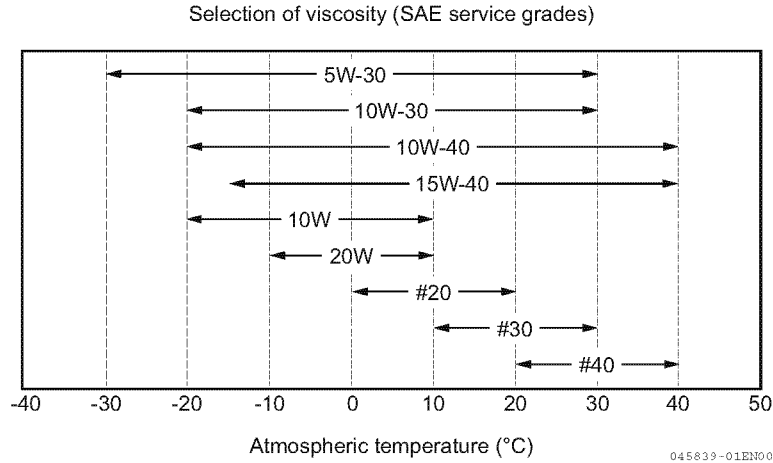

Fig. 00-59
- Select an appropriate lubricating oil viscosity depending on the ambient temperature where the engine will be operated. See **Fig.00-59** for the SAE service grade viscosity chart.
Select an appropriate lubricating oil viscosity depending on the ambient temperature where the engine will be operated. See Fig.00-59 for the SAE service grade viscosity chart.